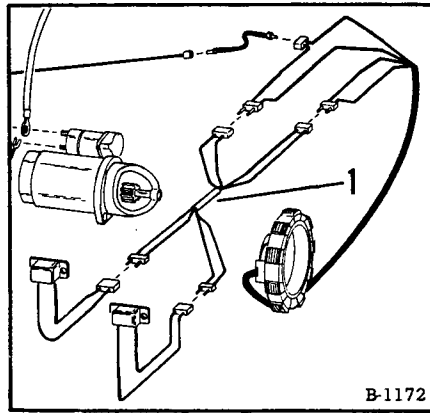

Fig. 195 Wiring Diagram
4. Use a jumper harness (Figure 195 Item 1) to connect the stator leads to the rectifier and regulator modules. The fool-proof type connectors prevent incorrect wiring.